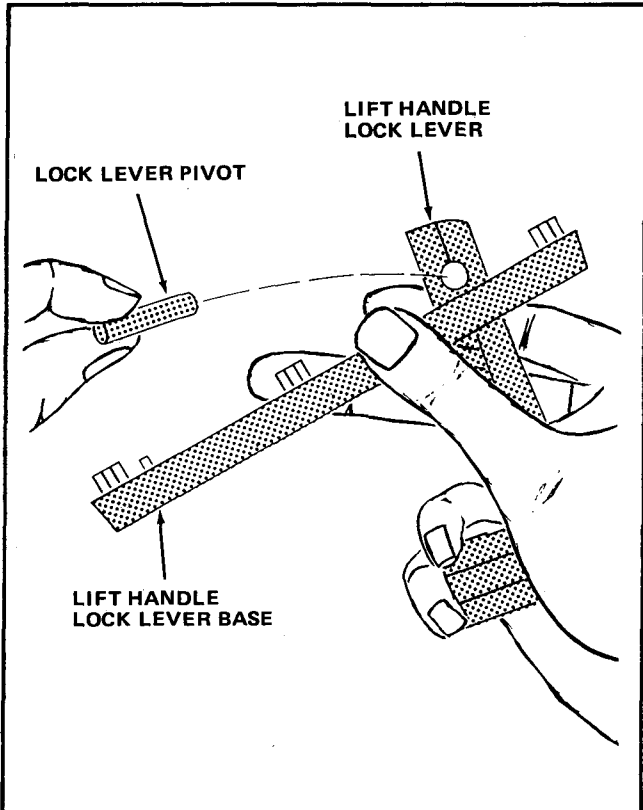

FIGURE 4
4. Remove the Lock Lever Pivot from the Lift Handle Lock Lever and separate the Lock Lever from the Lever Base. See Figure 4.
1. Insert the replacement Lift Handle Lock Lever, part number 117-2190 included in the Kit, into the Lift Handle Lock Lever Base and insert the Lock Lever Pivot (removed in step A-4) into the hole in the replacement Lock Lever. See Figure 4.